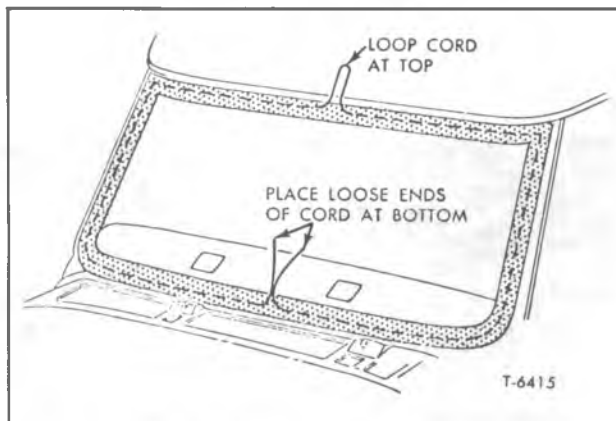

Figure 4—Cord Installation (Conv. Cab Model)
2. Install a cord around periphery of weatherstrip, leaving a loop at the top and the loose ends at the bottom as shown in figure 4.